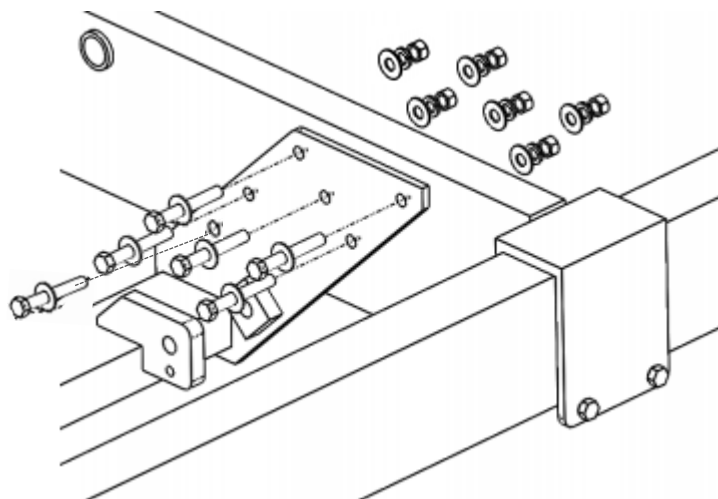

Figure 6
1. Align the holes on the Lower Cylinder Mount with the corresponding holes on the Side Beam as shown in figure 6.
2. Attach one (1) 1/2" Flat Washer to six (6) 1/2" x 3-1/2" Hex Bolts and insert into the corresponding holes as shown in Figure 6.
3. Attach one (1) 1/2" Flat Washer, one (1) 1/2" Lock Washer, and one (1) 1/2" Hex Nut to each of the five (5) protruding ends of the Hex Bolts and hand tighten.